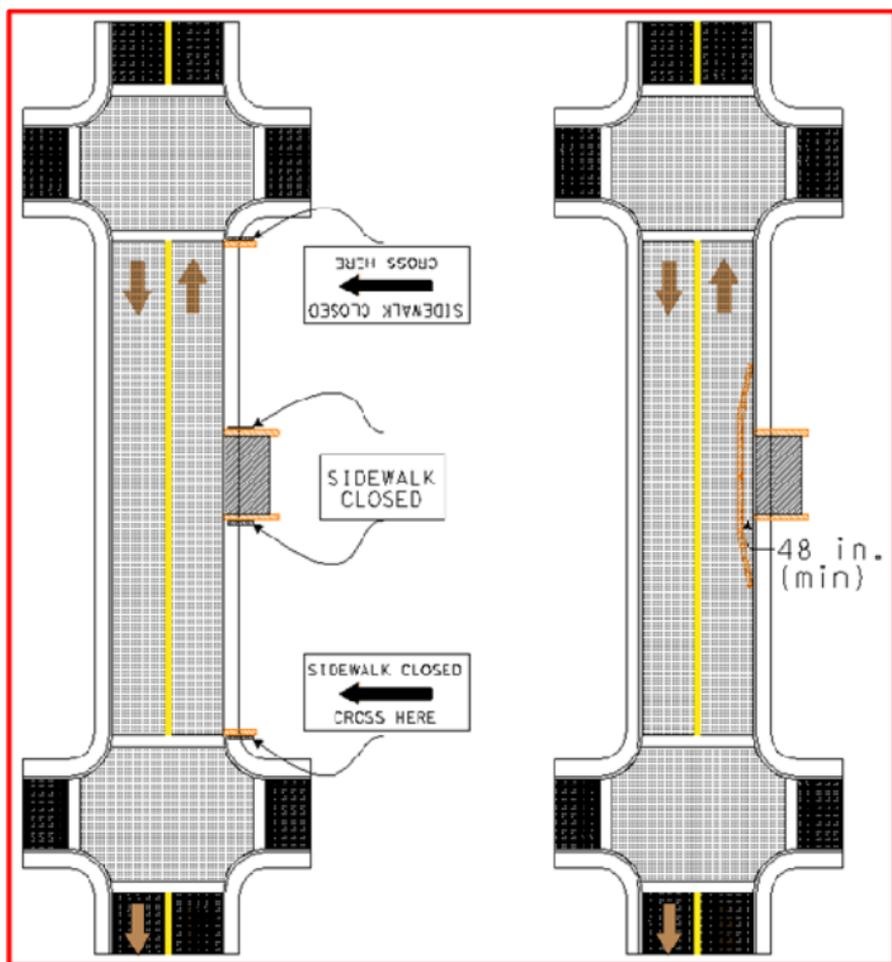

Figure 1. Sidewalk Detour or Diversion
- Midblock work sites should not induce pedestrians to attempt skirting the work site or make a midblock crossing. (See Figures 1 and 2.)